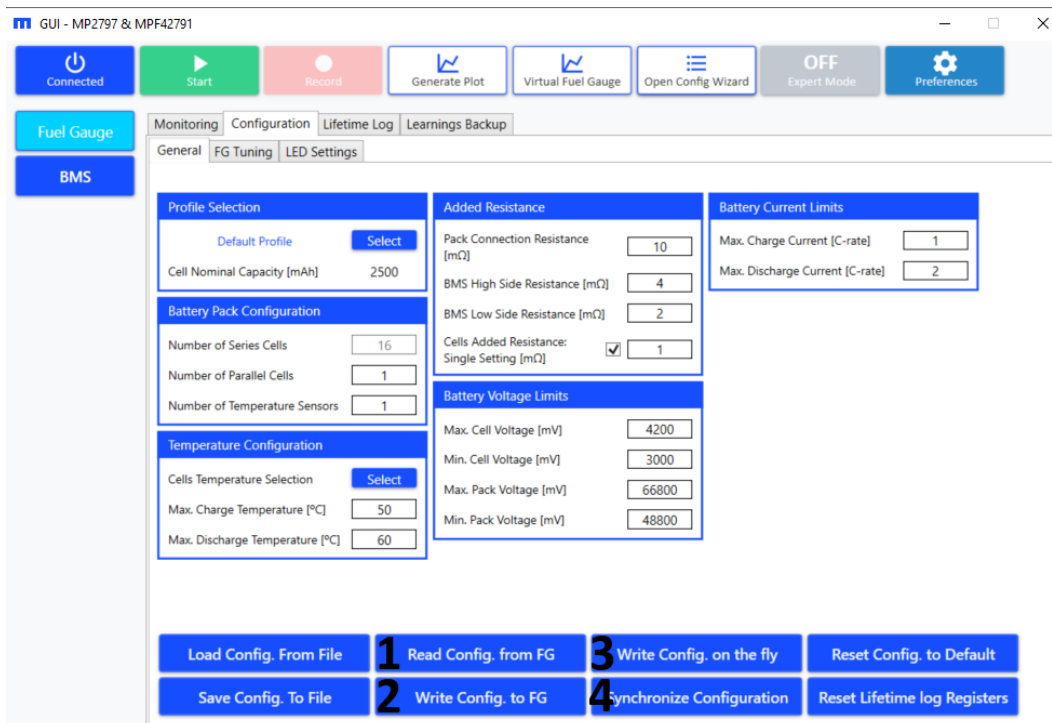
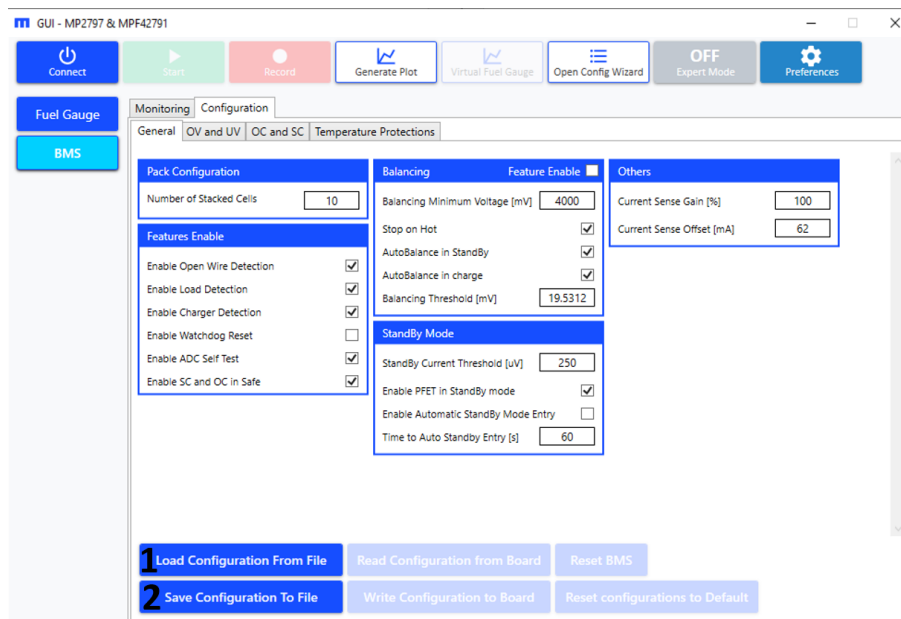

Figure 48: Fuel Gauge Configuration (Read and Write Buttons)
Figure 51: BMS (Load and Save Buttons)
3. Click “Read Config. from FG” to read the configurations for the MPF4279x and overwrite the fuel gauge configurations of the GUI (denoted as “1” in Figure 48).
4. Click “Write Config. to FG” to write configurations stored in the GUI to both the non-volatile memory (NVM) and volatile memory of the MPF4279x, then trigger an FG reset (denoted as “2” in Figure 48).
5. Click “Write Config. on the fly” to write the configurations stored in the GUI to the volatile memory of the MPF4279x (denoted as “3” in Figure 48).
6. Click “Synchronize Configuration” to write the configuration registers in the MP4279x’s volatile memory to the NVM so that the changes are retained, even after a hard reset (denoted as “4” in Figure 48).
3. Click “Load Configuration from file” to open the file explorer where a BMS configuration file can be selected (denoted as “1” on Figure 51). If the file containing the BMS configurations is in the correct format, the BMS configuration parameters of the GUI are overwritten (see Figure 51).
4. Click “Save Configuration to file” to open the file explorer (denoted as “2” on Figure 51). Select the directory and the filename of the exported configuration file, which contains the BMS configuration (see Figure 48 on page 36).